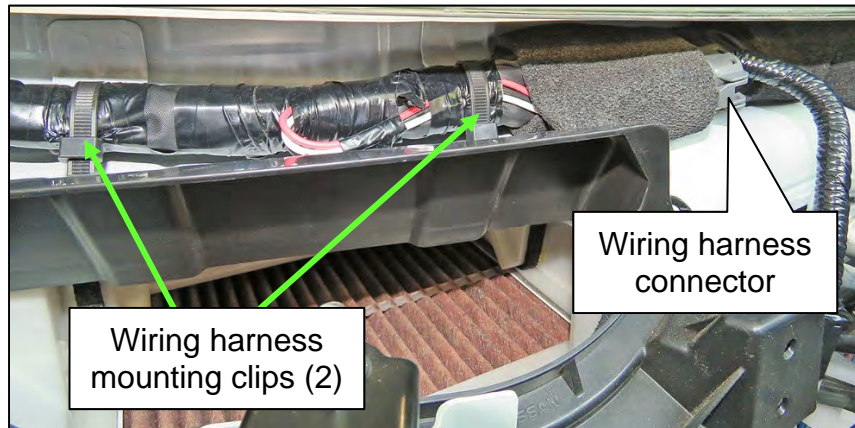

Figure 130
196. Reattach the two (2) Engine Control Harness mounting clips (Figure 130).
197. Reconnect the wiring harness connector (Figure 130).